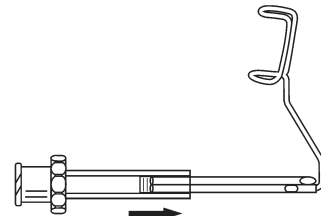

Fig. 4
- Slide the cleaning adapter G-31031 as shown in fig. 4 onto the bar with lumen (fig. 4).
- After cleaning and disinfection remove the cleaning adapter in reverse order (see fig. 4).